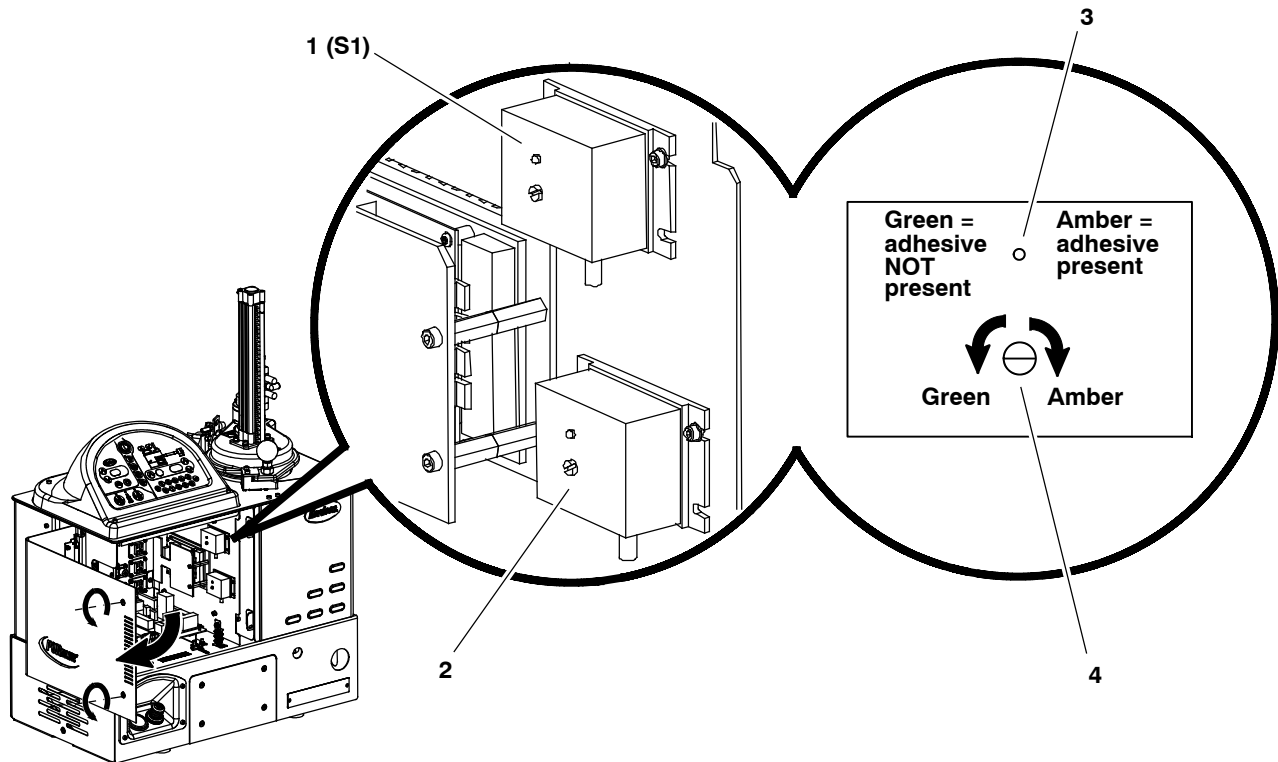

Figure 5-4 Location of the level sensor adjustment screws and LEDs
4. See Figure 5-4. Open the electrical enclosure and locate the level sensors.